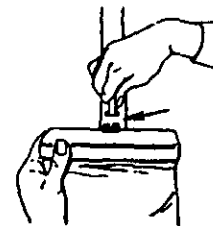

Fig. 1
The **Dimension™** Upright series of cleaners was first introduced in mid-1994 as replacements for Legacy models. **Fig. 1.**
1. Release jacket support upper from bag strap (Fig. 1).